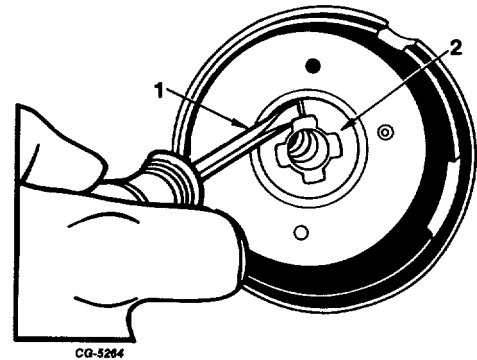

Fig. 23 Removing Grease Retainer Washer (Distributors Without Tachometer Drive)
1. On distributors without tachometer drive, use a small screwdriver to pry upper bushing grease retainer washer from distributor housing (Figure 23).